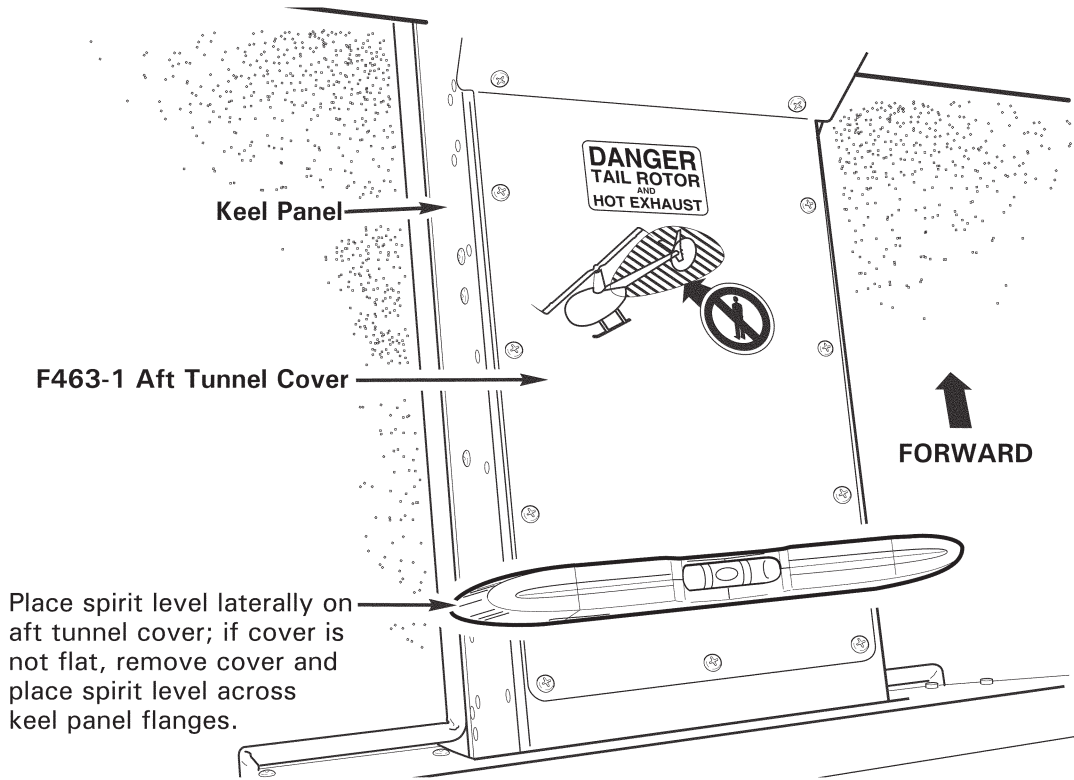

FIGURE 8-1 LEVELING FOR WEIGHT AND BALANCE
2. Refer to Figure 8-1. Place a spirit level laterally on F463-1 aft tunnel cover. Verify cover is flat; if cover is not flat, remove cover and place spirit level across keel panel flanges.
Refer to R66 Illustrated Parts Catalog (IPC) Figure 8-1.